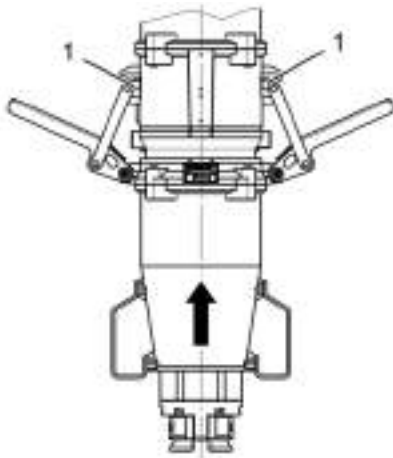

Fig.61: Hooking in the locking levers
2. Hook the locking levers of the Male Connector into the groove of the Female Connector (Fig. 61 /1).